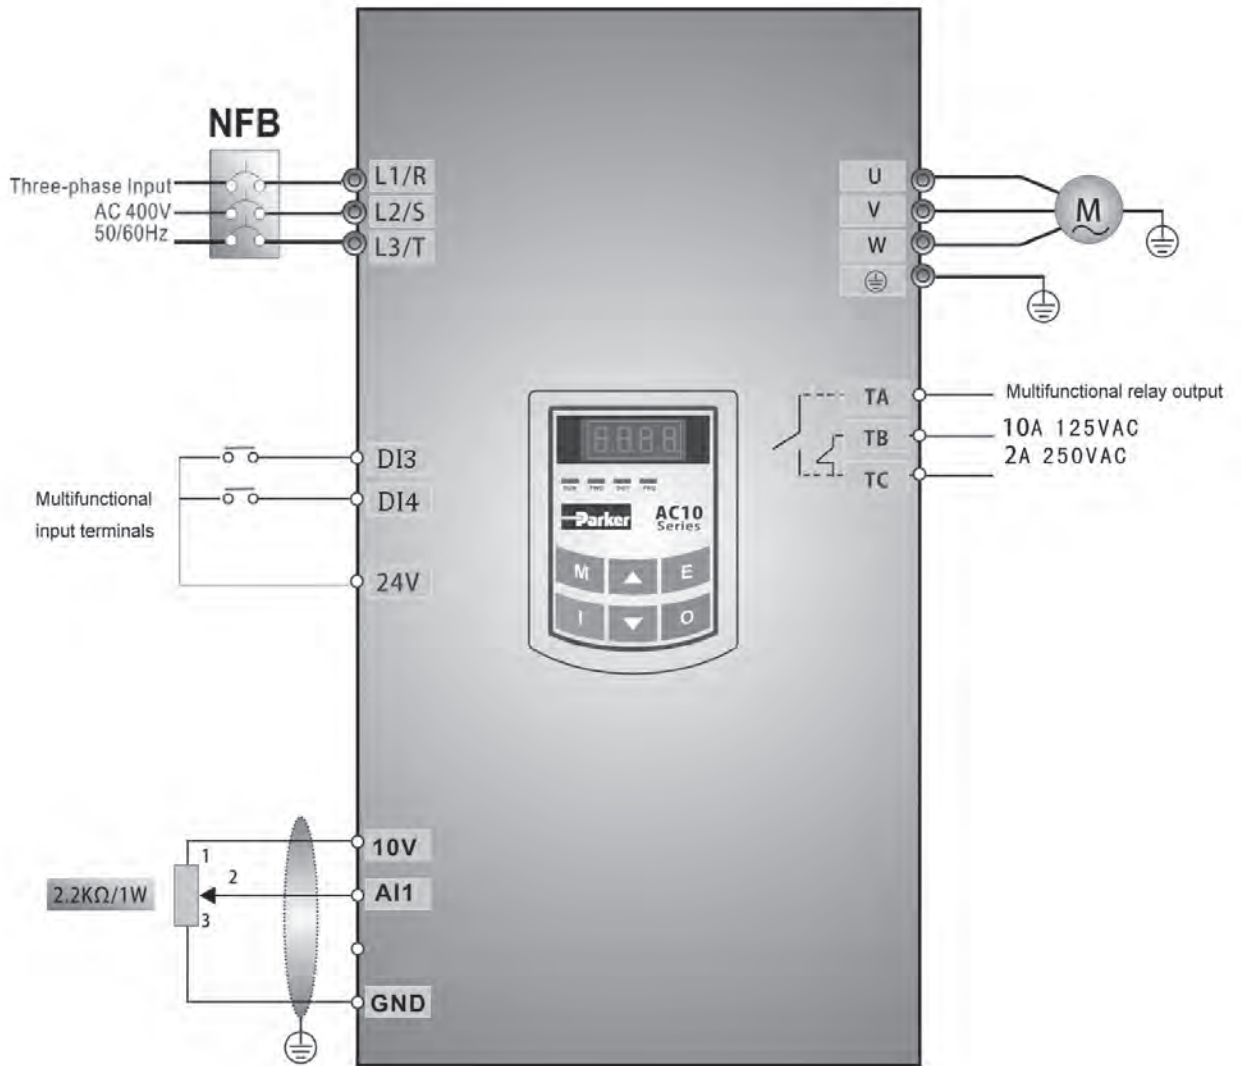

Figure 8-3 Wiring Diagram 3
- i. Connect the wires in accordance with **Figure 8-3**. After having checked the wiring successfully, switch on the mains supply, and power on the inverter. Note: 2K~5K potentiometer may be used for setting external analog signals. For the cases with higher requirements for precision, a precise multturn potentiometer is recommended, and adopt shielded wire for the wire connection, with near end of the shielding layer grounded reliably.